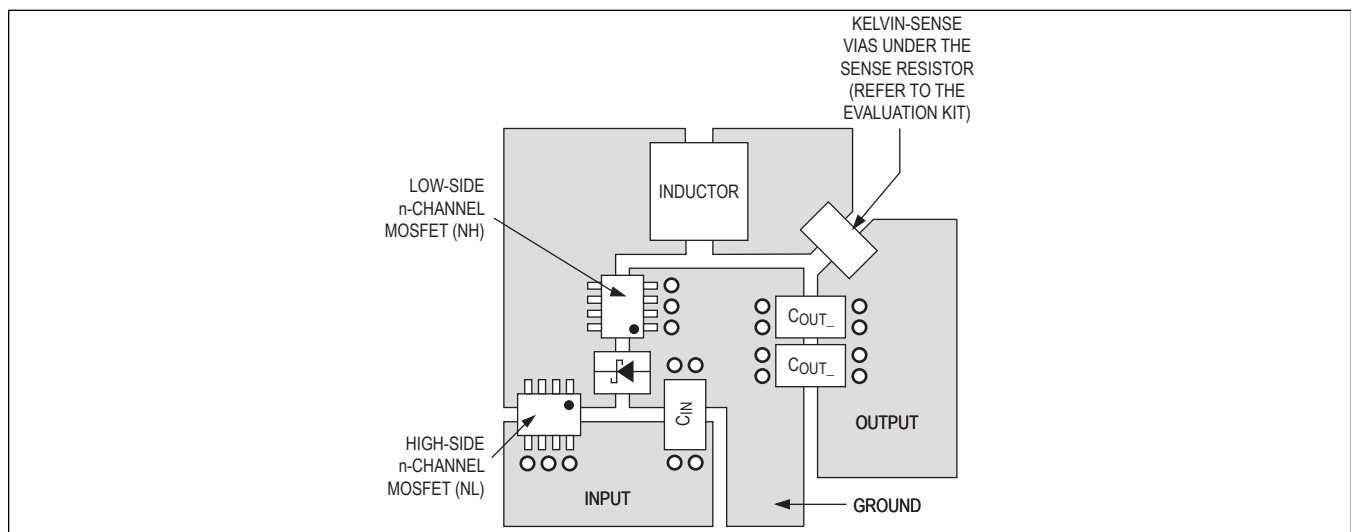

Figure 5. Layout Example
Careful PCB layout is critical to achieve low switching losses and clean, stable operation. The switching power stage requires particular attention (see Figure 5). If possible, mount all power components on the top side of the board, with their ground terminals flush against one another. Follow these guidelines for good PCB layout:
4. Make the DC-DC controller ground connections as shown in Figure 5. This diagram can be viewed as having two separate ground planes: power ground, where all the high-power components go; and an analog ground plane for sensitive analog components. The analog ground plane and power ground plane must meet only at a single point directly under the IC.